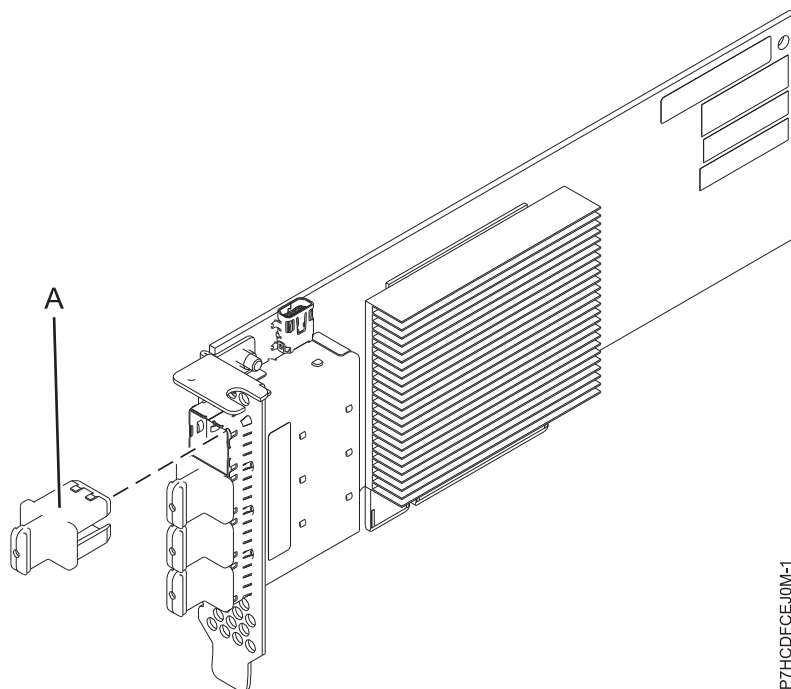

Figure 25. PCIe3 RAID SAS quad-port 6 Gb LP Adapter
The PCIe3 RAID SAS quad-port 6 Gb LP Adapter is a PCI Express (PCIe), generation 3, RAID SAS adapter that has a low-profile and short-form factor. The adapter is used in high-performance and high-density, serial attached SCSI (SAS) applications. It supports the attachment of SAS hard disk drives (HDDs) and solid-state devices (SSDs) by using four mini SAS high-density (HD) x4 connectors that allow the physical links to be used in various narrow and wide-port configurations. The adapter does not have write cache. Figure 25 on page 71 shows the PCIe3 RAID SAS quad-port 6 Gb LP Adapter.
Figure 25 on page 71 shows the adapter. The connector plug (A) is installed in an empty port and prevents damage to that port whenever a cable for the adjacent port connectors is plugged-in or removed.